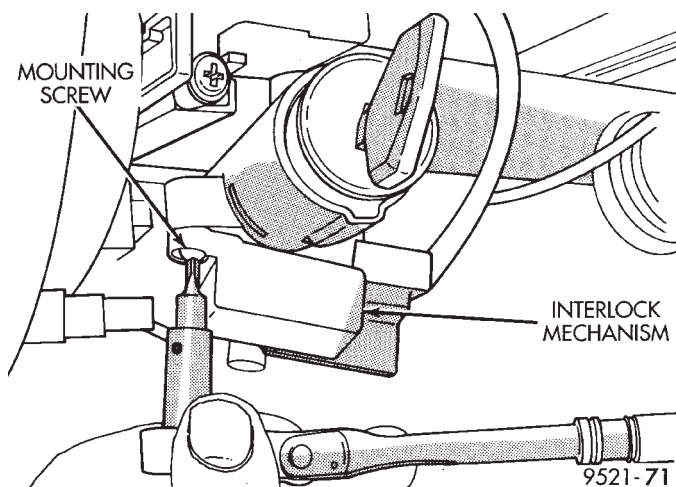

Fig. 19 Interlock Mechanism
- (1) Remove the lower column covers, knee bolster and shrouds. Refer to Interlock Cable Replacement.
- (2) Grasp the interlock cable and connector firmly. Remove the interlock cable.
- (3) Remove the two interlock mechanism to steering column attaching screws (Fig. 19). Remove the interlock housing.